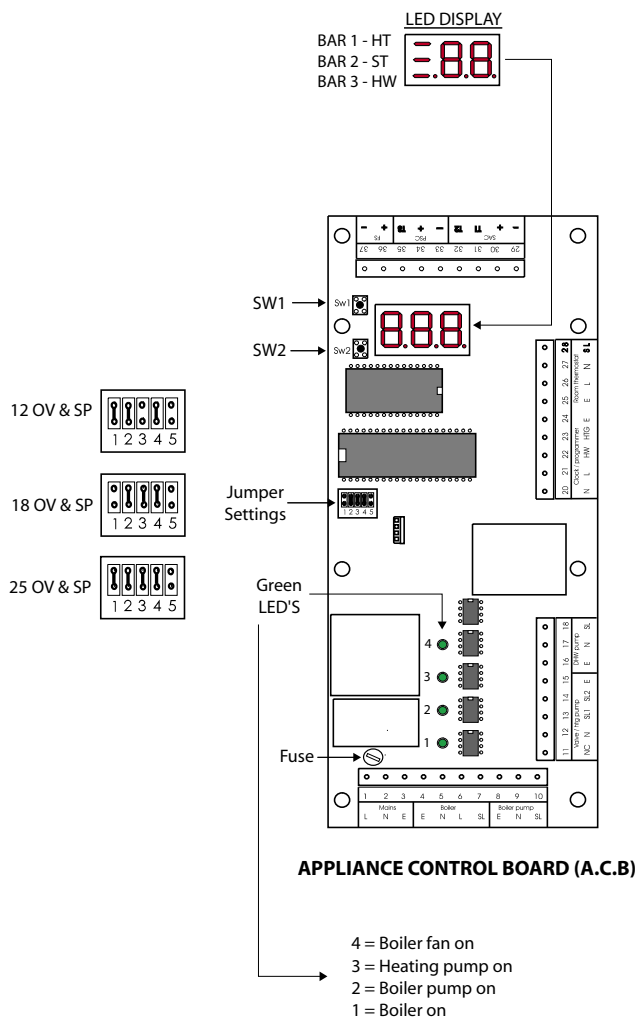

Figure 23
The appliance PCB (figure 23) indicates the operation of the system which must be checked and initialised as follows:
3. **Check the jumper settings are correct. These must all be in the correct positions for the appliance to work correctly see figure 23 below for details.**